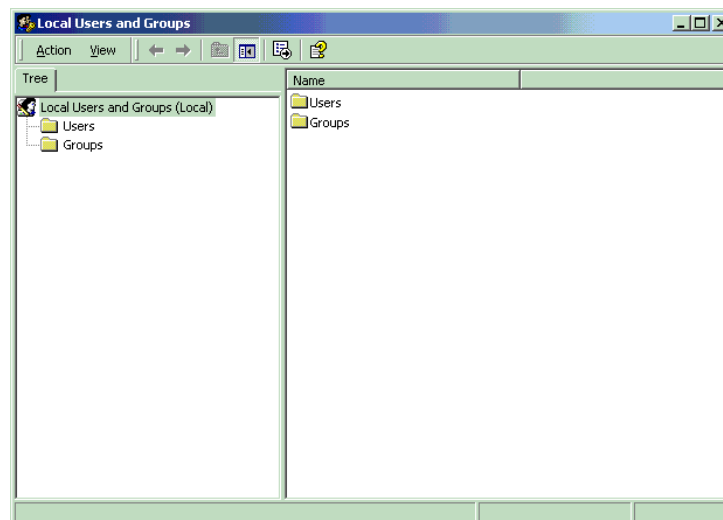

Figure 11. Local Users and Groups Window
3. Click the **Advanced** tab. Now click the **Advanced** button. The Local Users and Groups window opens (Figure 11).